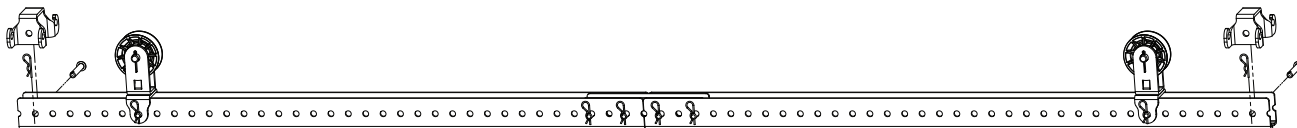

fig 1.3
8. Hooks may be placed wherever they are needed. (fig 1.3)